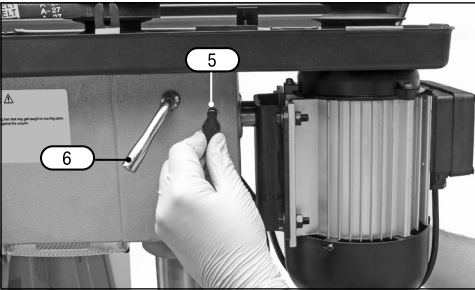

Fig. 13
7.1 Spindle Speed Adjustment (Fig.10 – Fig.13)